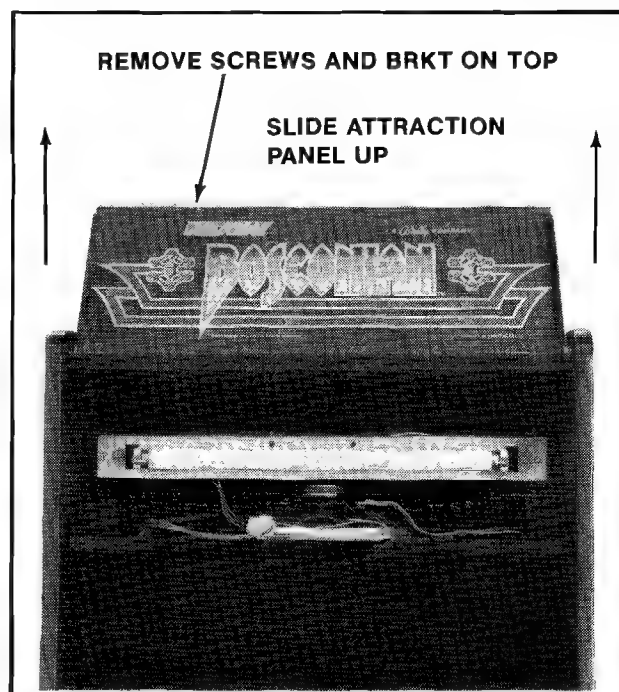

Figure 21 Opening the attraction panel — Upright game
1. UPRIGHT MODEL: See Figure 21.
Remove the screws which secure the top bracket in place. (They are on its top side.) See Figure 21.
Remove the top bracket and slide up the attraction panel. This exposes the attraction panel fluorescent light tube and its mounting bracket assembly. See Figure 21.